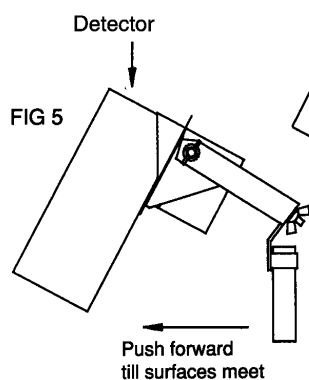

FIG 5
5. Push forward on handle or extension poles and Test Source will self-align to the correct position. Fig. 5.